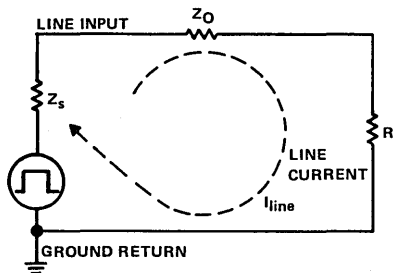

Figure 33. Diagram Representing a Gate Driving a Transmission Line
The total propagation delay is of secondary importance in generation of internal noise. The actual transition time determines the amplitude and frequency spectrum of the generated signal at the higher harmonics. Application of the Fourier integral to series 'ALS'/AS waveforms shows frequency components of significant amplitude that exceed 100 MHz. Because of the frequency spectrum generated when an 'ALS'/AS device switches, a system using these devices must consider problems caused by radio frequency (RF) even though the repetition rates may be only a few megahertz. The transient currents generated by charging capacitors, changes in the levels of dc, line driving, etc., must be considered. In Figure 33 for example, a gate driving a transmission line is represented by a voltage source E, having an output impedance  $Z_S$  connected to an impedance  $Z_0$ , and loaded with a resistance  $R_L$ .